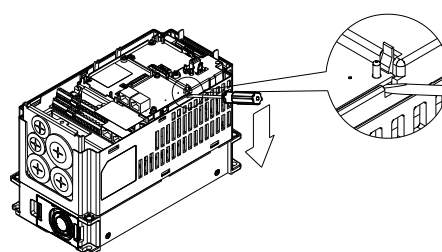

Figure 5
- Twist open the card clip and insert the slot type screwdriver to the hollow to prize the PCB off the card clip (see Figure 5).